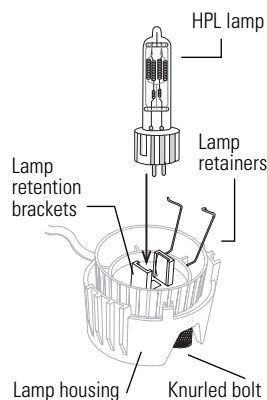

Figure 3
4. Line up the flat sides of the lamp base with the retention brackets on either side of the socket. See **Figure 3**.